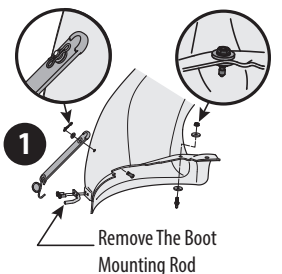

Figure 18
- Install the rubber chute strap onto the chute elbow using the supplied devis pin (711-05063), washer (736-0204) and bow-tie cotter pin (714-04040) from hardware pack 689-02239A. See Figure 18. Secure the end of the strap utilizing the hole furthest from the end, insert the smaller hook end of the torsion spring hook (732-04510A) into the other end (1).
NOTE: On decks with front deck wheels, the boot mount rod must be removed in order to install this discharge chute elbow onto the tractor. See Figure 18.
- Install the deck mounting pin (711-05049) up into the chute elbow using two flat washers (736-0176) from hardware pack 689-02239A and secure with a flange lock nut (712-3027), as shown in Figure 18.
- Remove the boot mounting rod and hardware as indicated in Figure 18.